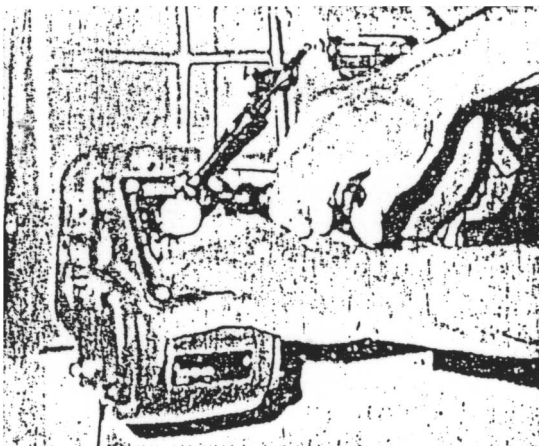

FIG.1
- Mount the dial indicator so that it registers movement of the input gear (driven gear) of the P.T.O.. (See Fig. 1.)